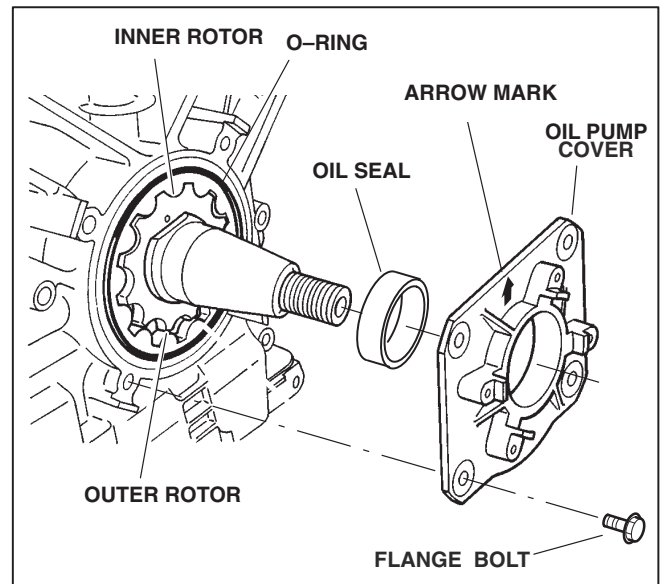

FIGURE 6-9.
2. Position an o-ring in onto crankcase (Figure 6-9).